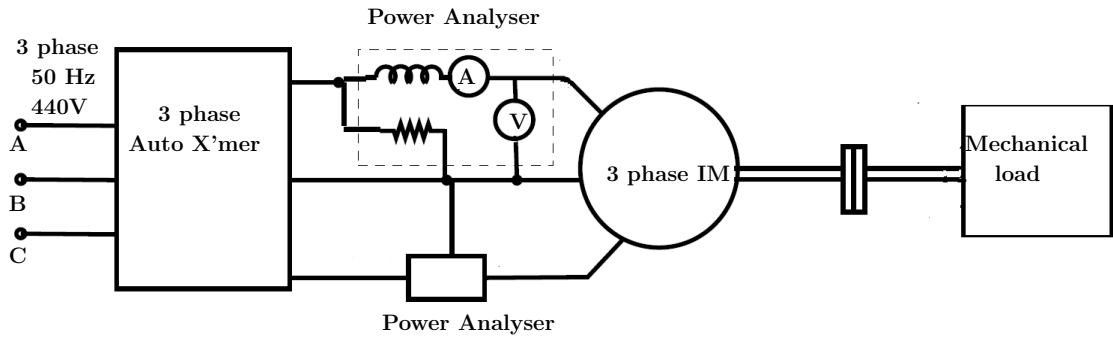

Figure 4: Circuit diagram for variable voltage control
- Connect the circuit as shown in figure 4. In this experiment the motor is loaded with a mechanical system.